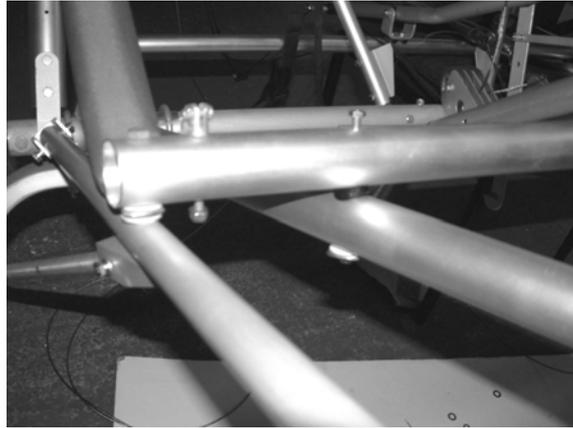

Figure 44; seat front support tube.
- a) Fit the seat front support tube **tu15**, above the lower cabin triangle tubes **tu12** with a pair of saddle washers per bolt between the two tubes, Figure 44.